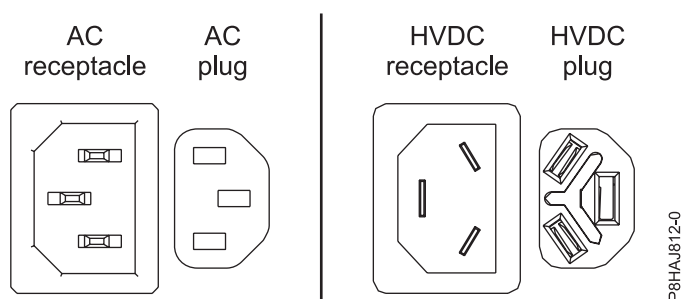
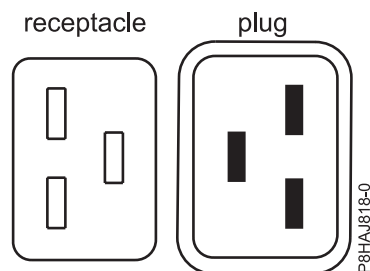
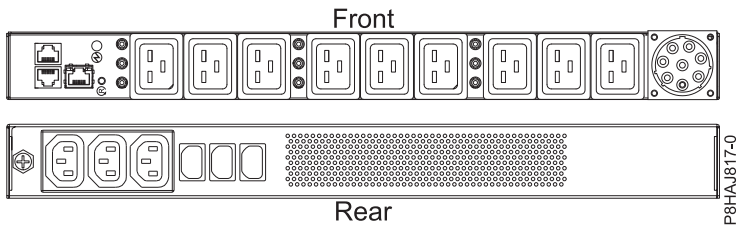

Figure 71. AC and HVDC connectors
Figure 72. Connectors for the 8408-44E system
Figure 73. PDU for the 8408-44E system
Figure 71 shows the supported alternate current (AC) and high voltage direct current (HVDC) connectors. Figure 72 and Figure 73 on page 99 show the supported connectors and power distribution unit (PDU) for 8408-44E.